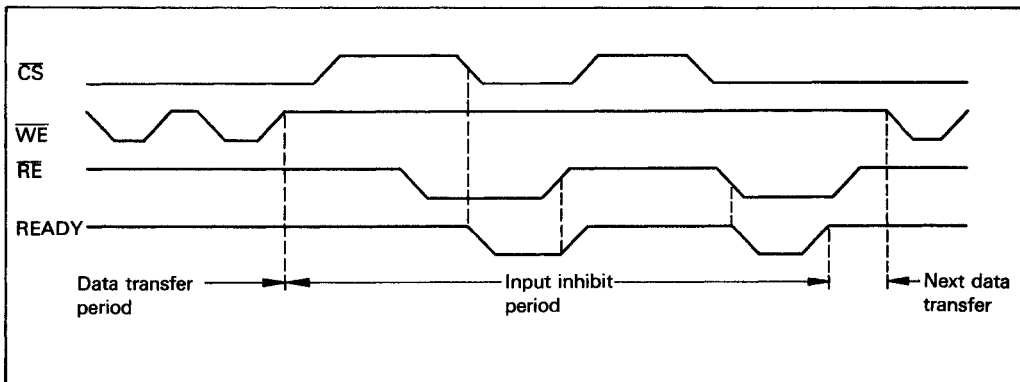

Figure 17. READY Output Timing (When It is Available by \overline{CS} and \overline{RE} .)
- READY is available by \overline{CS} and \overline{RE} (figure 17).
- (2) **LCD Off Mode:** In this mode, the HD61605 stops driving LCD and turns it off.